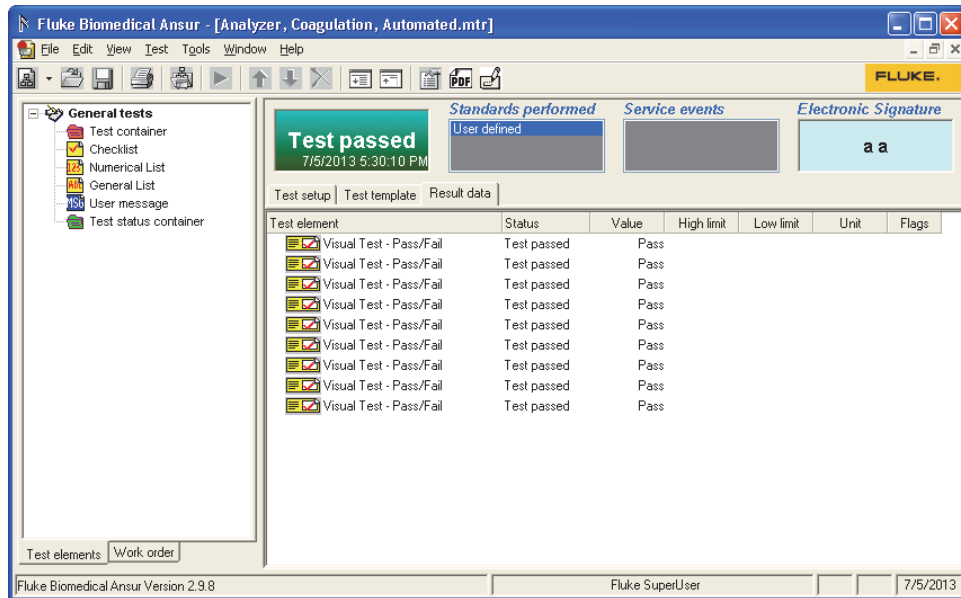

Figure 3-7. Ansur Test Record Window
8. Click the **Next** icon (➡). Ansur creates a Test Record, closes the Test Summary window and opens the Test Record window shown in Figure 3-7.